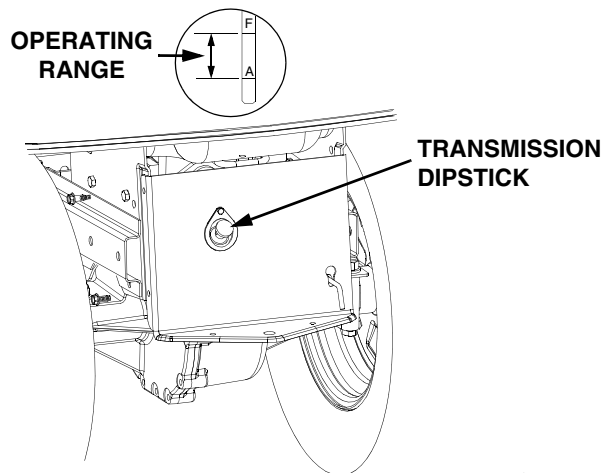

Figure 21
Check the oil level of the transmission case before each use to see that it is filled to the correct level. Before checking the transmission oil level, clean the area around the oil fill plug/dipstick to prevent debris from entering the transmission case. Always keep the oil level between the “FULL” and the “ADD” marks on the dipstick (See Figure 21). When checking the oil level, the dipstick must be withdrawn and wiped clean, then inserted all the way before being withdrawn for a true reading.
3. Remove the oil fill plug/dipstick from the oil fill port and SLOWLY pour oil into the oil fill port. Fill the transmission case until the oil level reaches the “FULL” mark on the dipstick (Refer to Figure 21).
6. Remove the oil fill plug/dipstick from the oil fill port and SLOWLY pour oil into the oil fill port. Fill the transmission case until the oil level reaches the "FULL" mark on the dipstick (Refer to Figure 21).